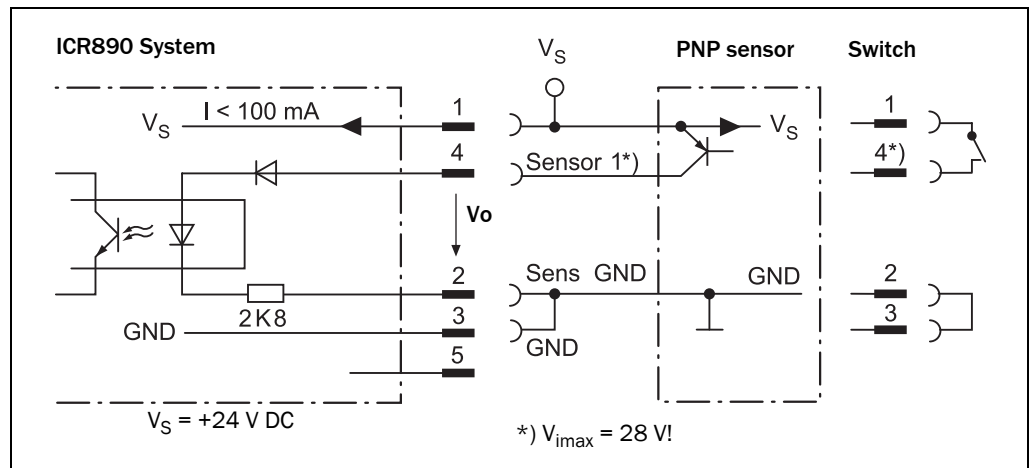

Abb. 5-8: Wiring of the switching inputs IN 1 and IN 2
The **incremental encoder** is connected via the switching input **IN 2**. Fig. 5-8 shows the wiring of switching input IN 1 as an example. Tab. 5-15 contains ratings for both inputs.
1. Connect the reading pulse sensor (photoelectric reflex switch) to switching input IN 1, as shown in Fig. 5-8.
2. Connect the incremental encoder to switching input IN 2, as shown in Fig. 5-8.